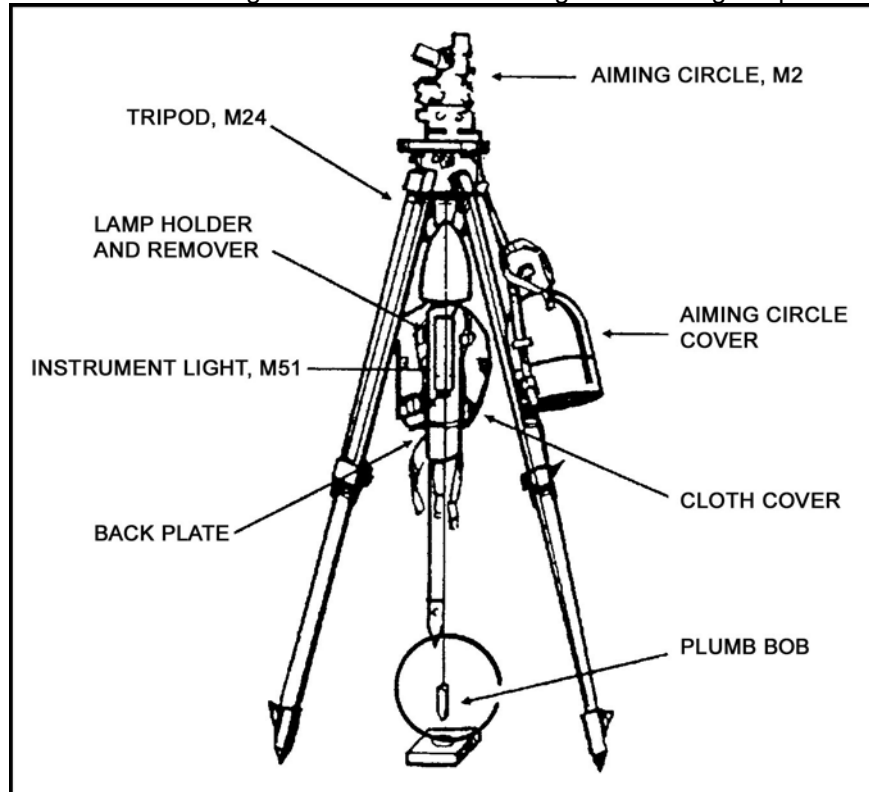

Figure 1. Plumb bob.
- a. Mount and level the aiming circle over the declinating station using the plumb bob (Figure 1).